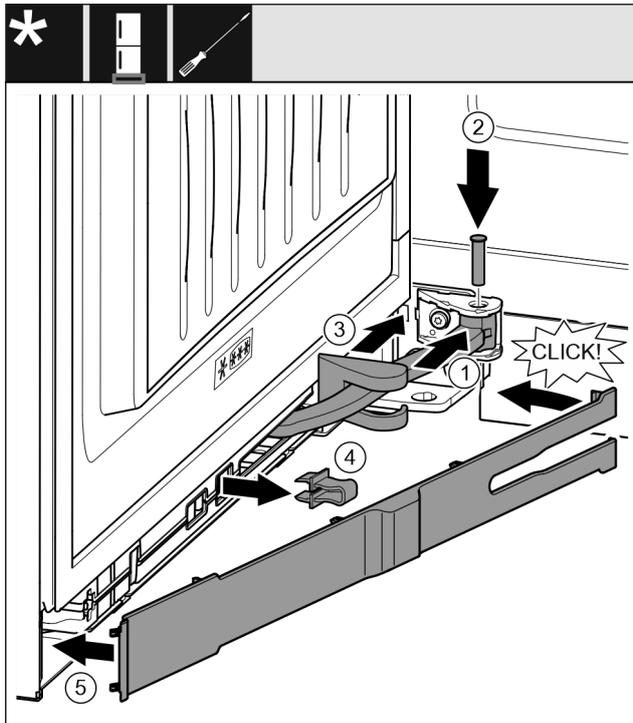

Fig. 58
- ▶ Turn the joint Fig. 58 (1) in the attachment.
- ▶ Use a screwdriver to insert the bolt Fig. 58 (2) into the attachment and the joint. Ensure that the latching cam is in the groove properly.
- ▶ Push the swap bearing block cover Fig. 58 (3) along the joint and use the attachment to fit it.
- ▶ Remove the safeguard Fig. 58 (4).
- ▶ Place the trim Fig. 58 (5) on the handle side and swing in.